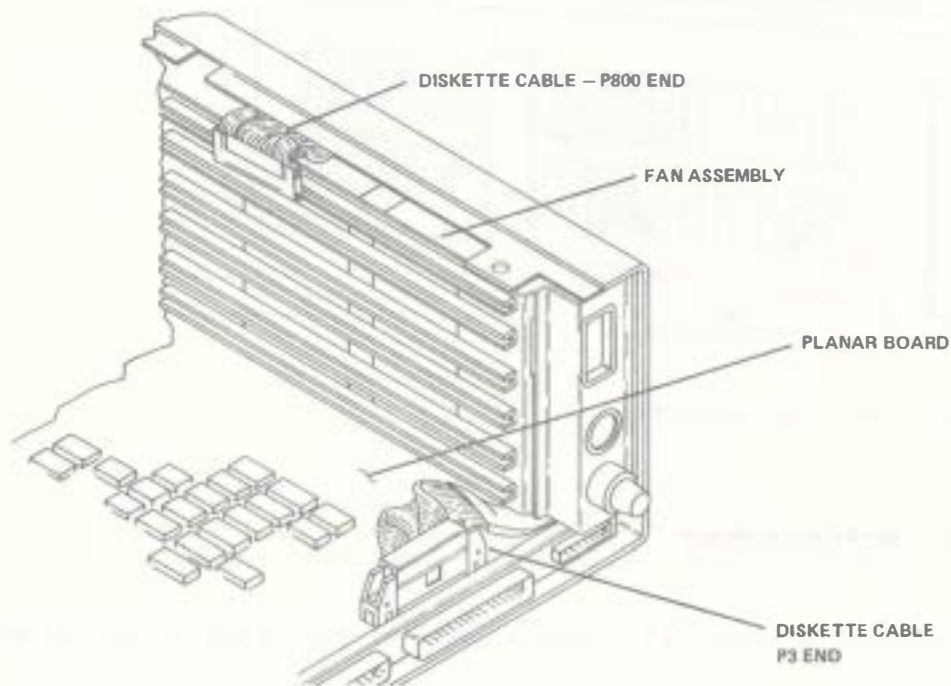

Figure 5-35. Diskette Cable
11. Transfer the 5 $\frac{1}{4}$ " diskette cable to the fan assembly to be installed. See Figure 5-35.